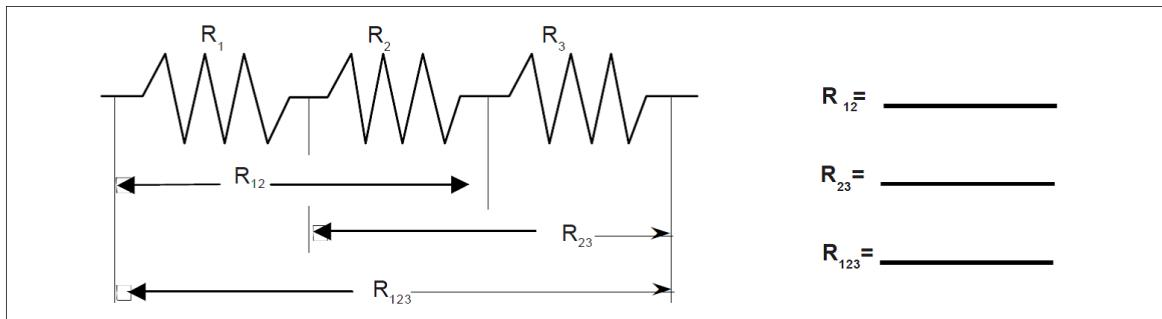

Figure 7: A diagram of the series circuit
6. Now connect the three resistors into the series circuit (as shown in figure 7), using the spring clips on the Circuits Experiment Board to hold the leads of the resistors together without bending them. Measure the resistances of the combinations as indicated on the diagram by connecting the leads of the multimeter between the points at the ends of the arrows. Use the 20K range if using  $1000\Omega$  and 2K if using  $330\Omega$ . Record your results in figure 7.